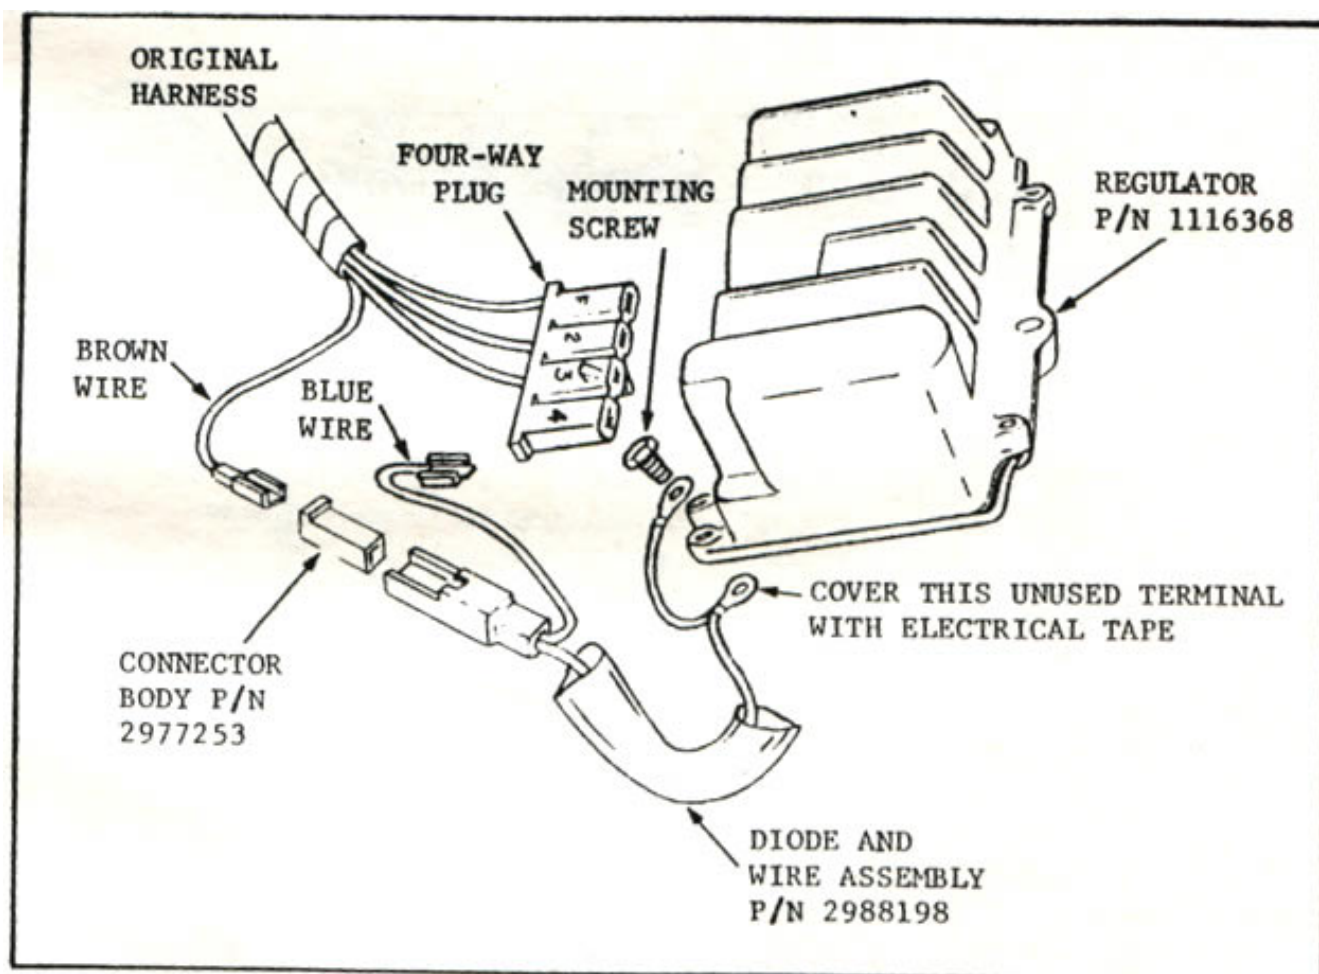

FIGURE 1 - DIODE AND WIRE ASSEMBLY (PART #2988198) INSTALLATION
6. Install the regulator with the black ground "pig tail" attached by one of the mounting bolts (see fig. 1).